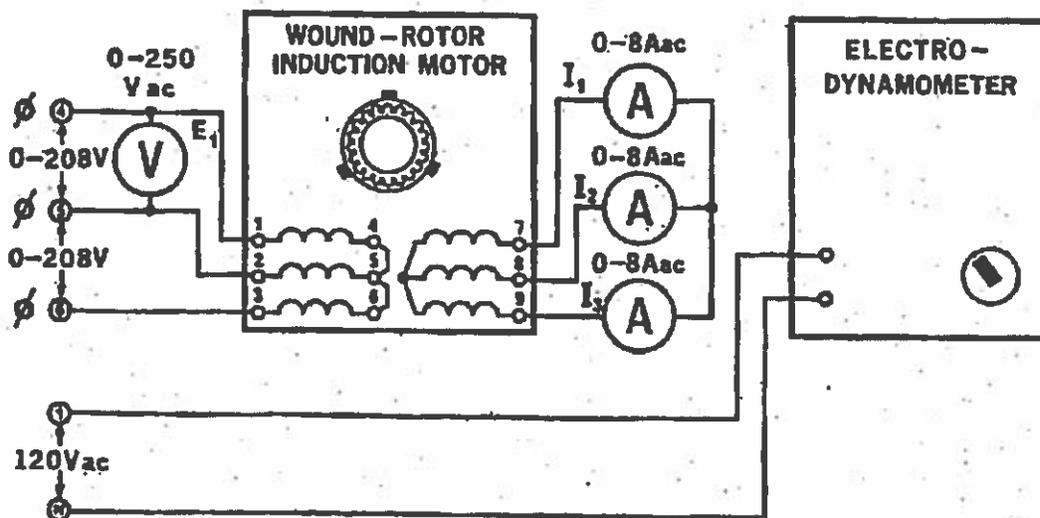

Figure 50-1.
1. Using your Three-Phase Wound-Rotor Induction Motor, Electro-dynamometer, Power Supply, AC Ammeter and AC Voltmeter, connect the circuit shown in Figure 50-1. Note that the three stator windings are connected to the variable 3 ϕ output of the power supply, terminals 4, 5 and 6.